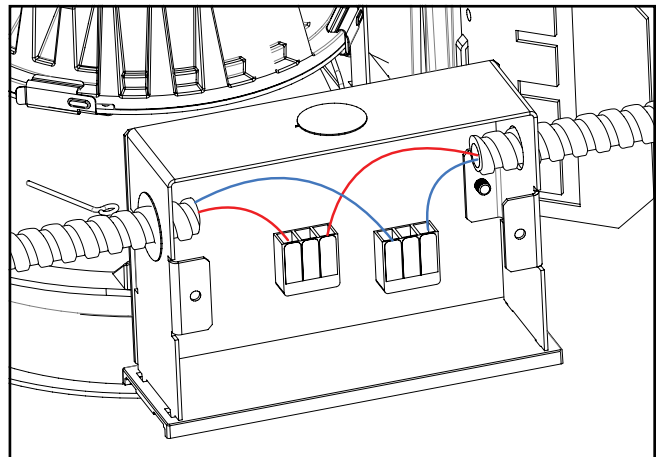

Figure 14
1. Remove junction box cover (Figure 14.).
3. Connect red and blue wires in the fixture using the provided lever nut connectors. (Figure 14). Be careful not to leave any bare conductors outside of the lever nut connectors.
4. Lift the orange tab on the lever nut to disengage the wire and close to secure the wire in place (Figure 14).